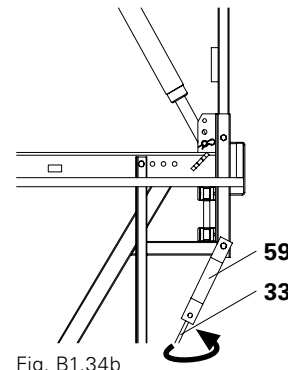

Fig. B1.34b
2. Screw Tie Rod DW 15 (33) into the nut of the Tension Anchor Connector CB (59). (Fig. B1.34b)